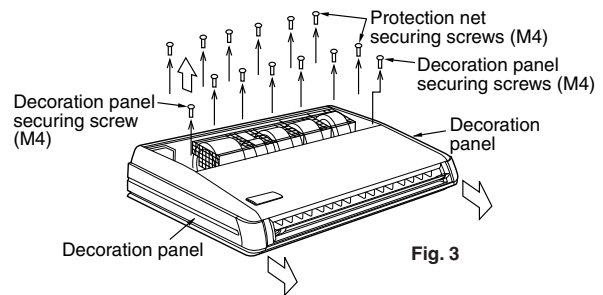

Fig. 3
- After removing the securing screws for the decoration panels (one each), pull them forward (in the direction of the arrow) and remove them. (Refer to Fig. 3)
- Remove the securing screws for the protection net. (Refer to Fig. 3)